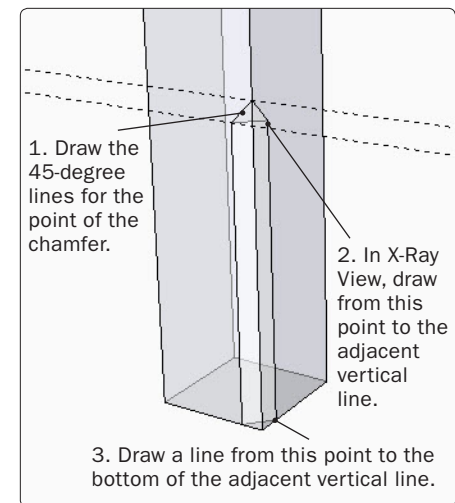

Figure 10. Draw the angled part of the chamfer, then switch to X-Ray View to draw rest of this element.
Step 8 Create the termination point of the chamfer by drawing angled lines up to the point where the guide line intersects the edge of the leg component, as shown in Figure 10. Then in the View Menu, switch the face style to X-Ray View to draw the hidden lines that form the base of the chamfer.